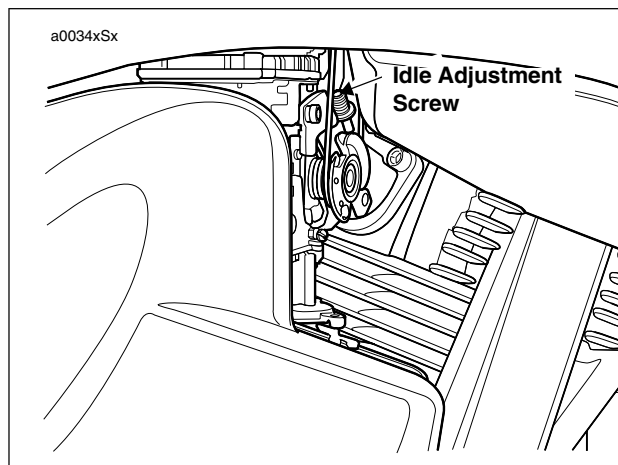

Figure 1-43. Adjusting Idle Speed
Regular idle speed is 1200 RPM. Set idle speed using remote idle adjustment screw. See Figure 1-43.
4. See Figure 1-43. Set engine speed by turning the idle adjuster clockwise to increase speed or counter clockwise to decrease speed.